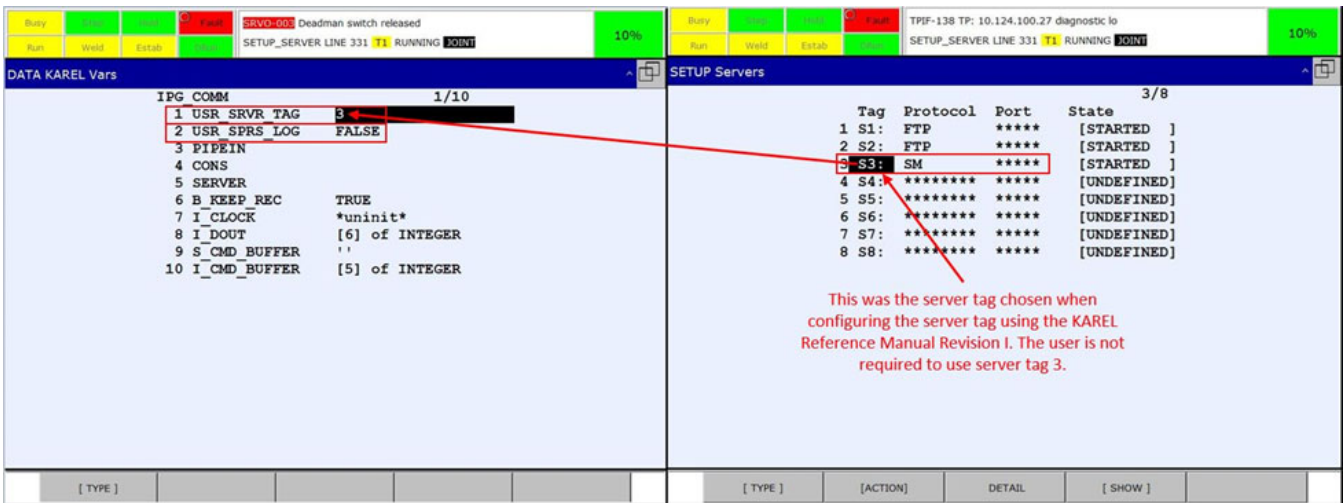

Figure 206: Setting DATA KAREL Vars
9. Set the appropriate values for "USR_SRVR_TAG" and "USR_SPRS_LOG." See Figure 206 (below).